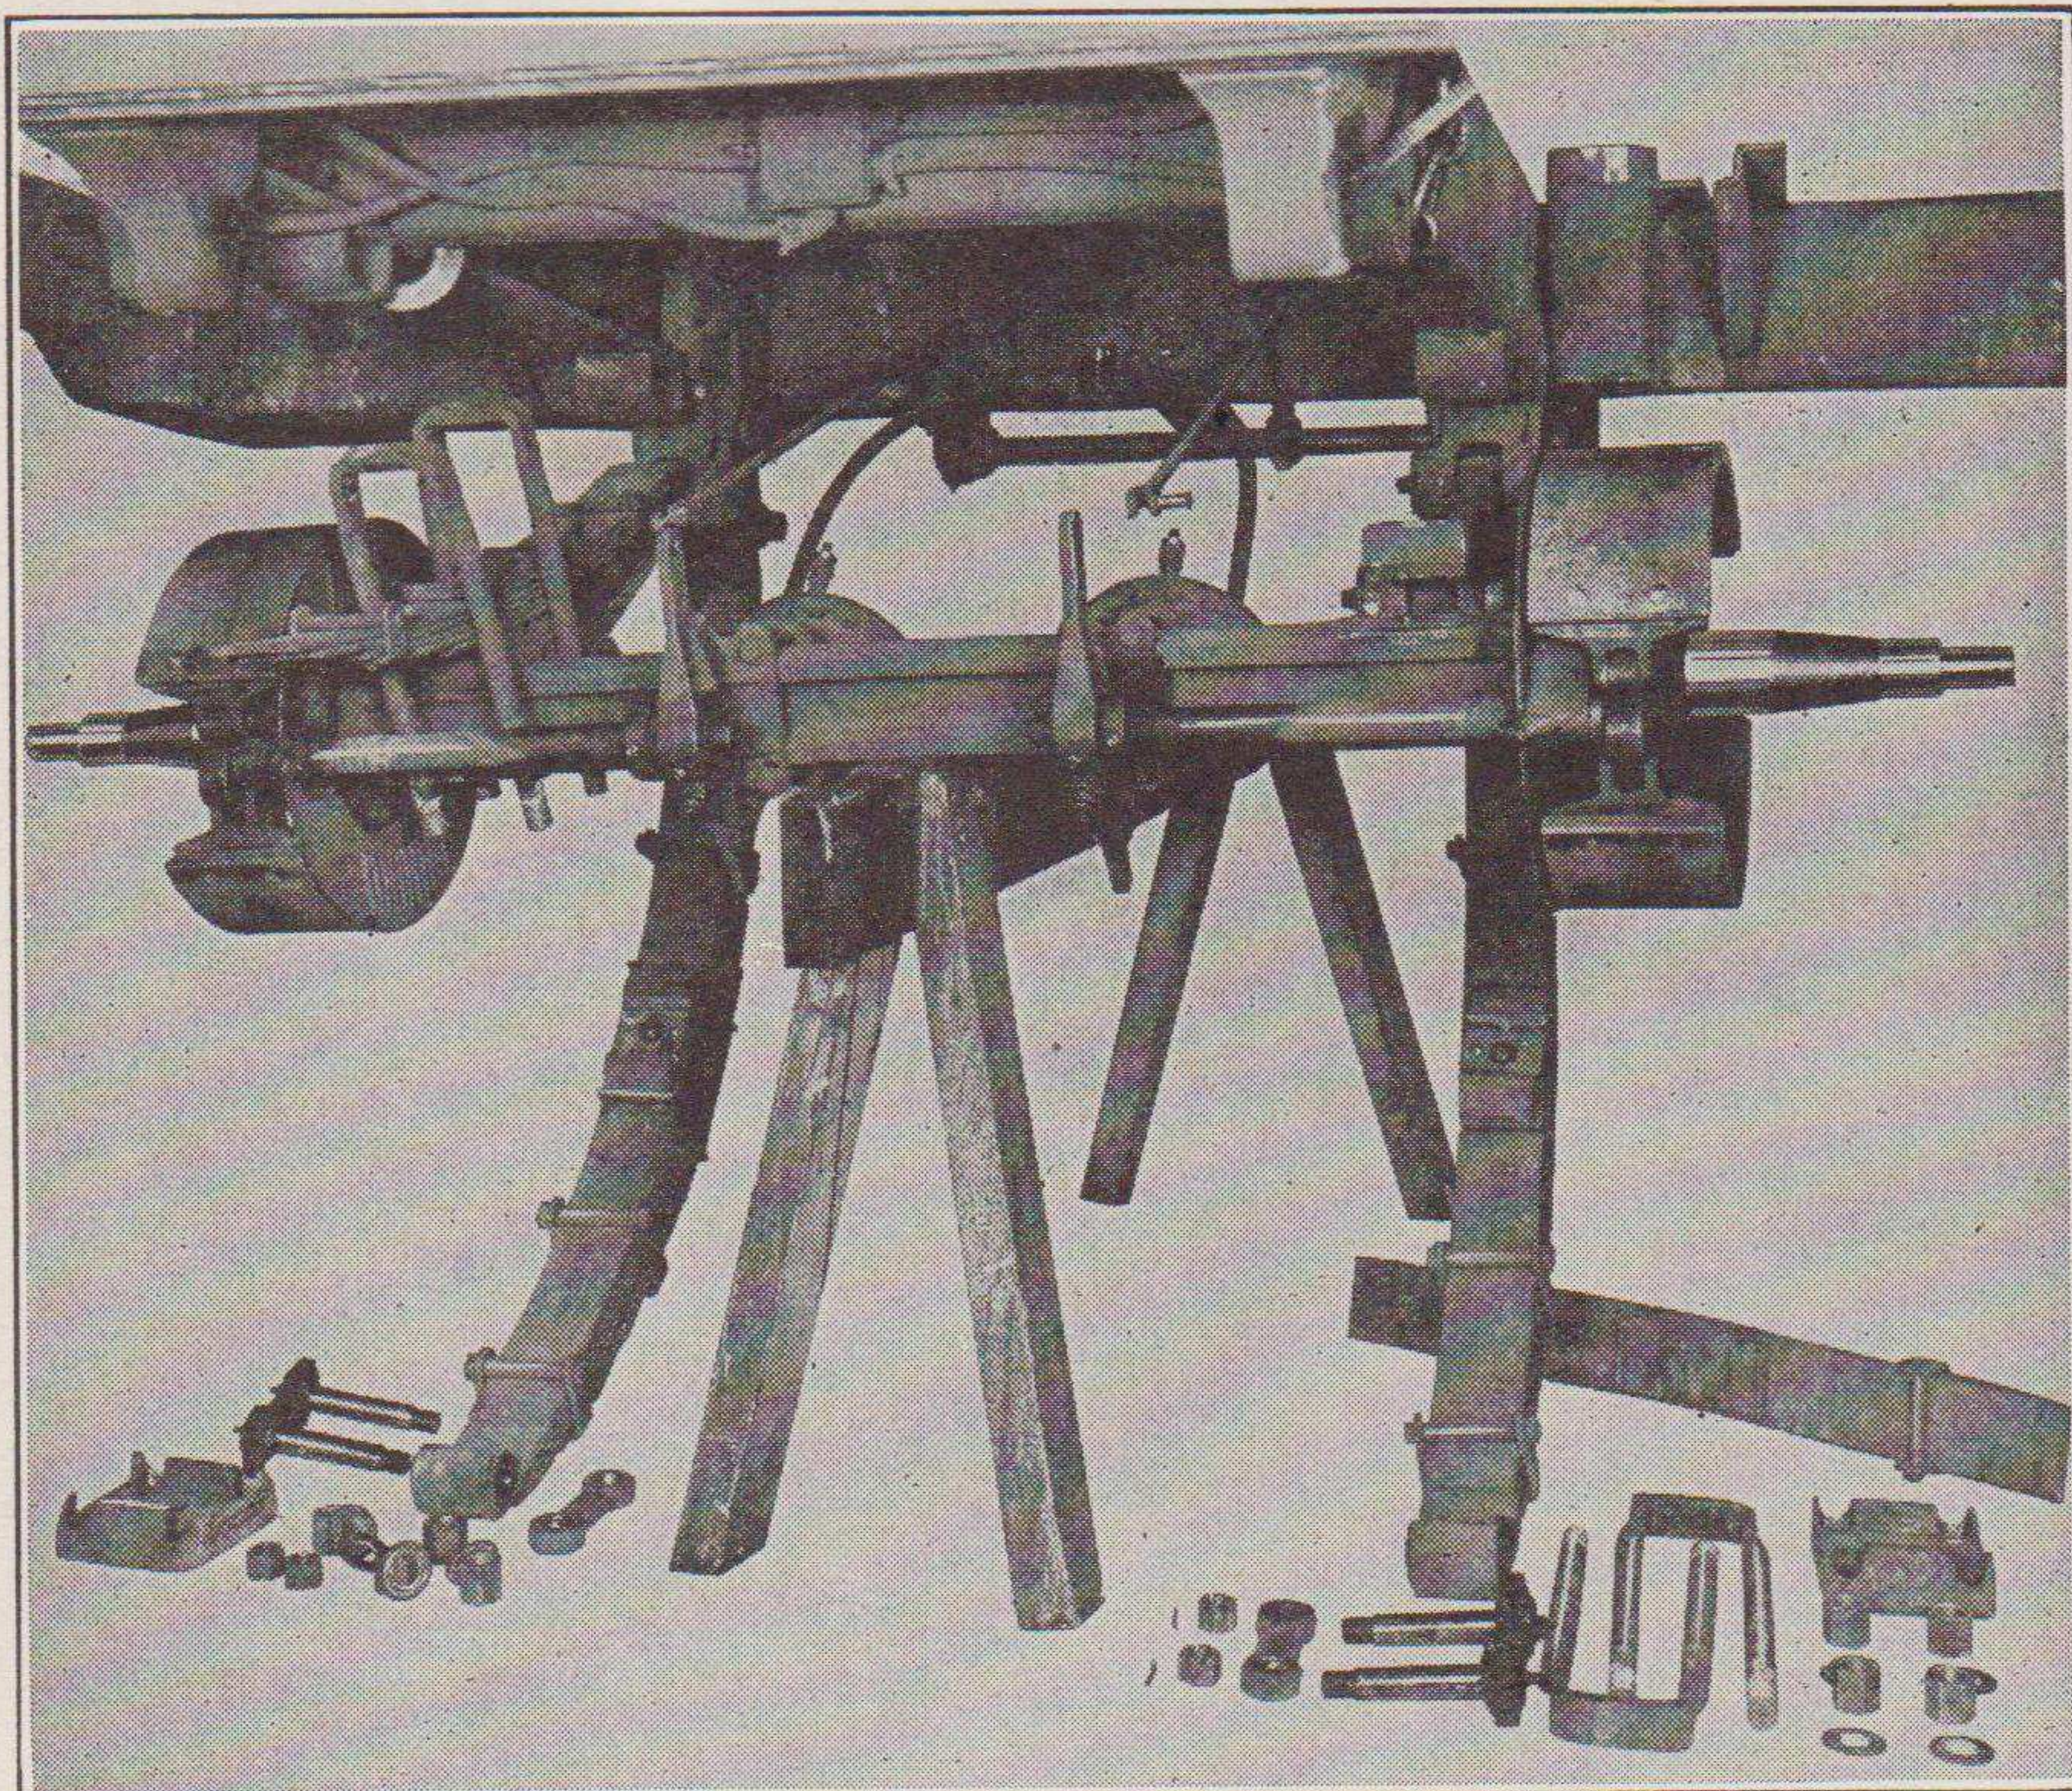

FIGURE 10. REPLACING AXLE
6. AXLE REPLACEMENT (Refer to Figure 10).—*a.* Hoist up the trailer at the rear of the body and remove wheel assemblies.